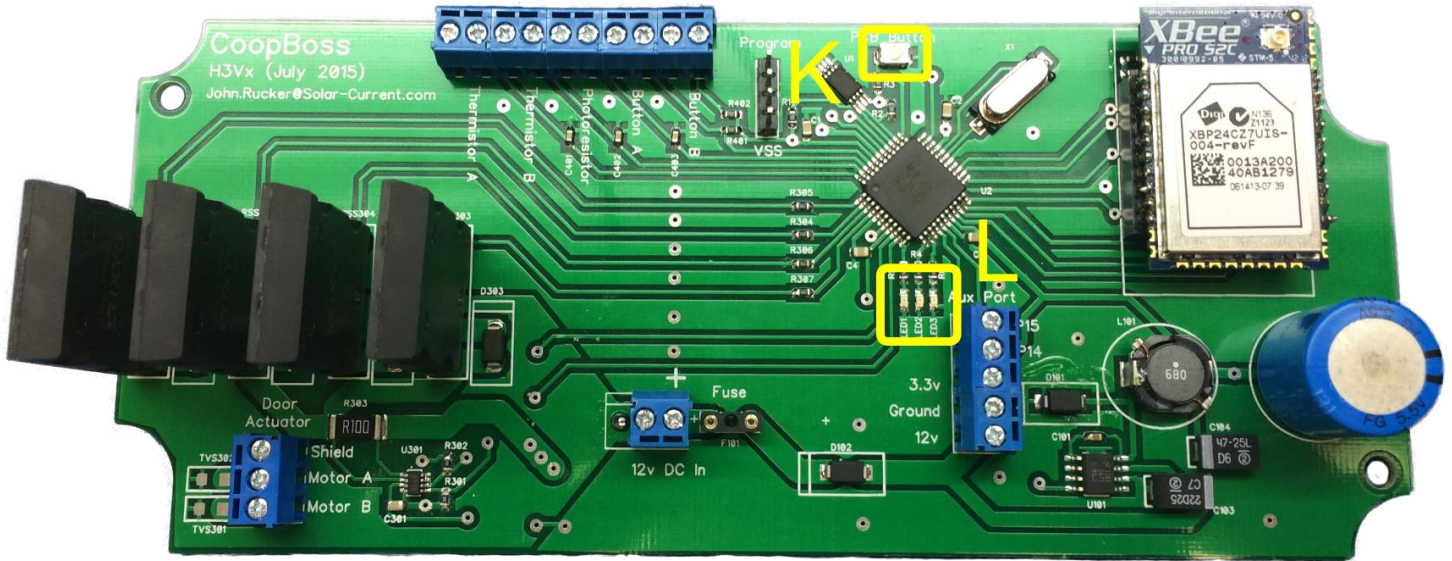

Figure 5
Figure 5 area "K". The three red LEDs are located just below the main processor as shown in area "L" of Figure 5. These LEDs display numbers in binary format. Refer to LED Key to see the LED patterns that represent numbers from 1 to 7. The LEDs will light up to show program status. The LED status numbers are divided into two sets of seven numbers. The first set of numbers gives a status as the CoopBoss does its initial program load (IPL) (see details in table "LED sequence during IPL"). The second set of numbers are used after IPL is complete and the CoopBoss is in normal operation mode. You can tell if the CoopBoss is in normal operation mode when LED 3 flashes on and off at one second intervals (see details in table "LED light sequence once IPL is complete").
The normal door close current must be set after installation of the actuator to your coop door. Use the Open/Close push button to open and close the door a few times making sure it closes smoothly and no objects are in the path. Wait until LED3 is flashing, indicating IPL is complete and the CoopBoss is in normal operating mode, then push the small button at the top of the PCB (see area “K” in Figure 5) to set the current of the last door close as the normal door close current. From now on this current setting will be used as a base line for detecting an object in the path of the door. Test this by placing a plastic bottle in the path of your door and push the button to close. The door should bump up against the plastic bottle and open back up. **DANGER: At no time should you place your hand or any body part in the path of the door. If the system malfunctions it could cause bodily harm.** This process should be repeated every 6 to 12 months to insure the door is function correctly.
To leave the ZigBee network and reset back to factory condition, remove the power to the CoopBoss for a few minutes, push the PCB button (see area “K” in Figure 5) and hold while powering the CoopBoss back on. Remove finger when all three LEDs quickly flash on and off. At this point the CoopBoss has
- c. Once the door has successfully open and closed several times you can now set the normal door close current by pushing the button on the PCB (Figure 5 area K). This sets the current from the last door close as the normal operating current for the coop. From this point on when the door is closing its current will be compared to this value and used to determine if an object is in the path.